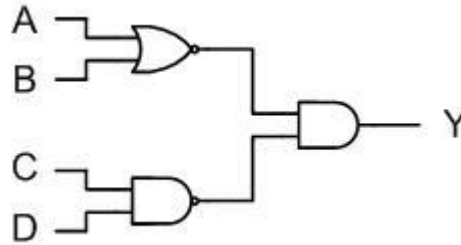

Figure 2 : A simple circuit with AND, NAND and NOR gates
2. Derive the equation of the logic function implemented by the circuit of Fig. 2.
4. Derive the truth table for the circuit in Figure 2.